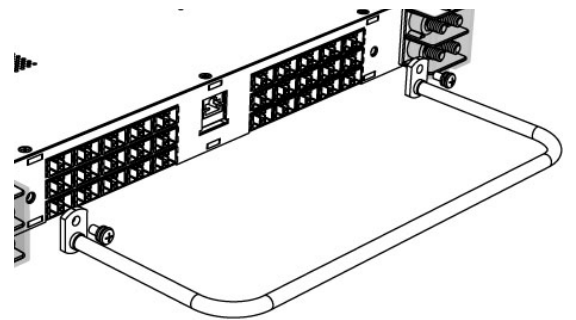

Figure 4. Lacing bar (connectorized models only)
- Step 1.** Attach the output cable lacing bar by tightening the two 10-32 phillips-head screws into the threaded holes located on the rear of the panel (see Figure 4).